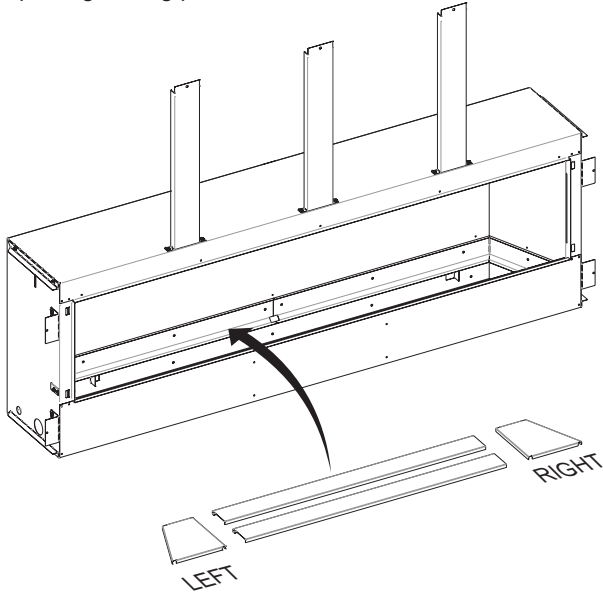

Figure 49
4. Install the burner screens as shown in Figure 49. If installing an optional log set, refer to the log set instruction manual for placing the log pins into the burner screens.